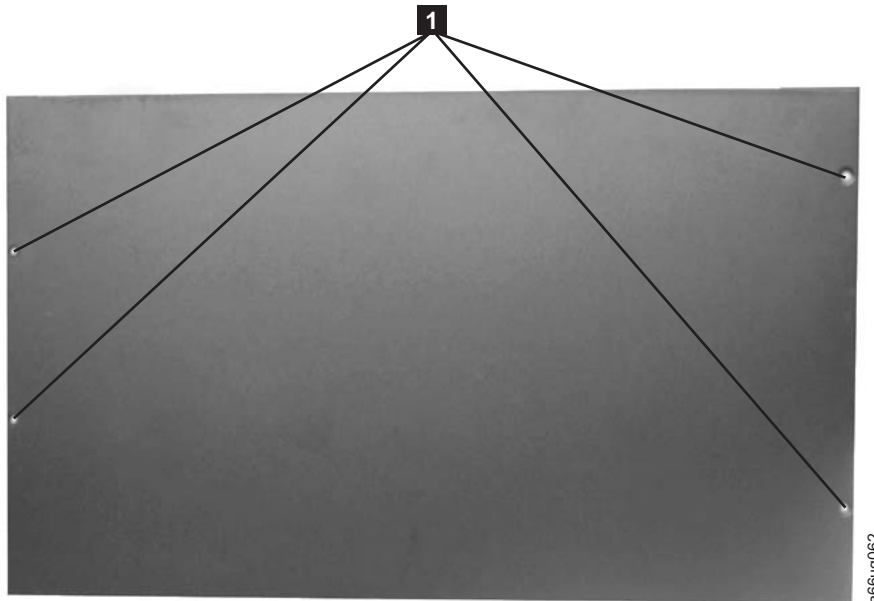

Figure 4-12. Top cover of the 5U control module
1. Remove the 4 - #2 Phillips top cover screws (**1** in Figure 4-12).
4. Install the top cover on the expansion module, using the 4 - #2 Phillips screws (**1** in Figure 4-12 on page 4-12).